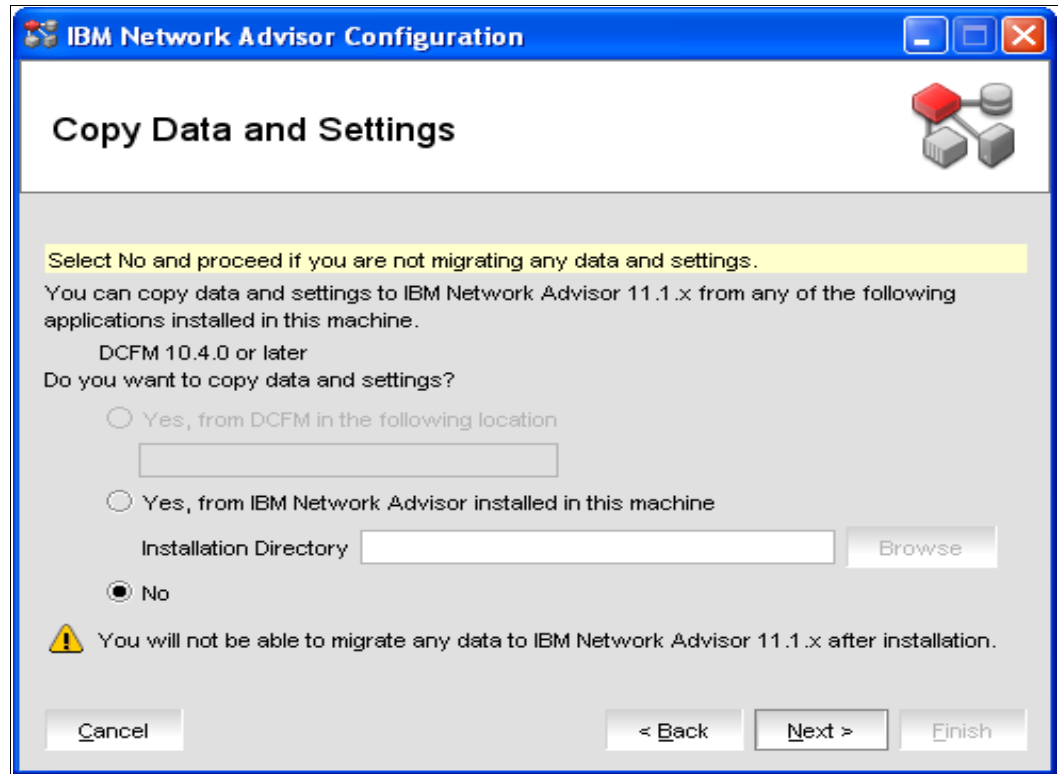

Figure 8-5 Data migration window
4. If you do *not* need to migrate data from a previous installation, select **No**, and click **Next** (see Figure 8-5 on page 251).